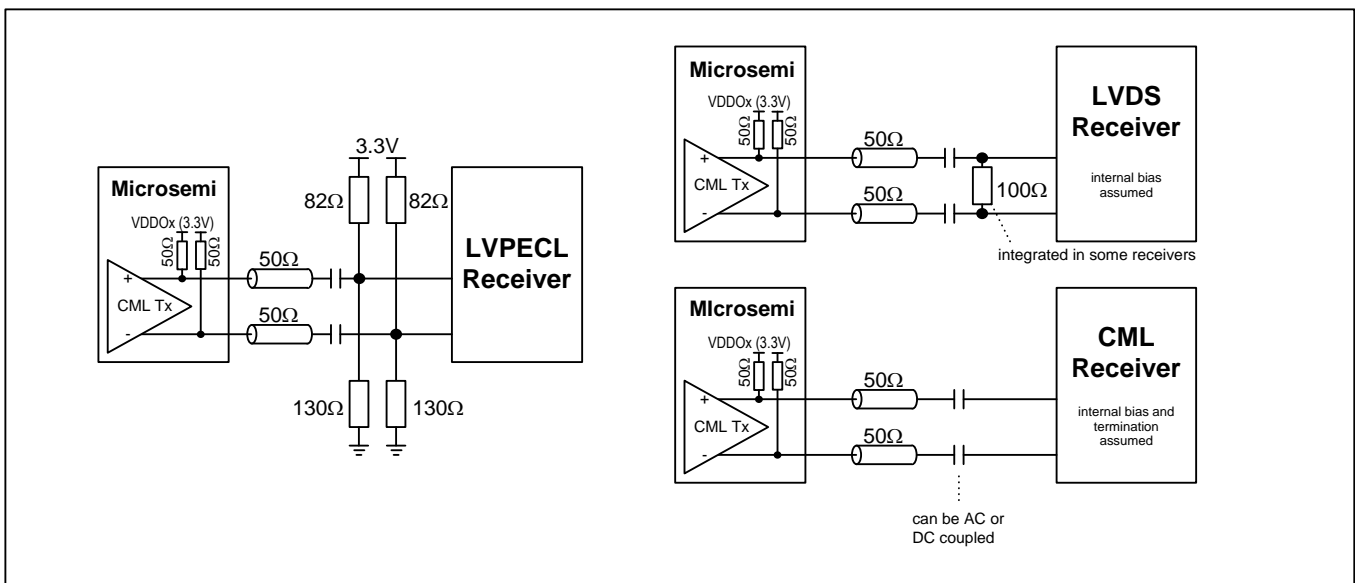

Figure 18 – Example External Components for CML Output Signals
**Note 1:** The differential CML outputs can easily be interfaced to LVDS, LVPECL, CML and other differential inputs on neighboring ICs using a few external passive components. See Figure 18 for details.